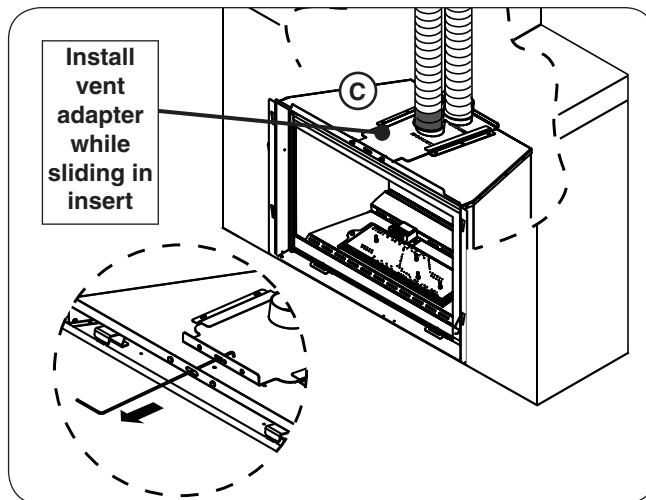

Fig. 24-1 Fully slide-in unit / install vent adapter
6. Slide the vent adapter into the top of the direct vent insert as shown in Fig. 24-1, D. Simultaneously slide the direct vent insert fully into the fireplace. The supplied wire hook can be used to assist in pulling the vent adapter forward into the insert.